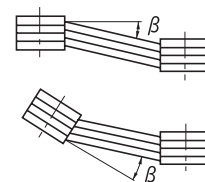

Fig. 9
- The parallelism and eccentricity (β) between both pulleys should be within $20'$. (See Fig. 9)